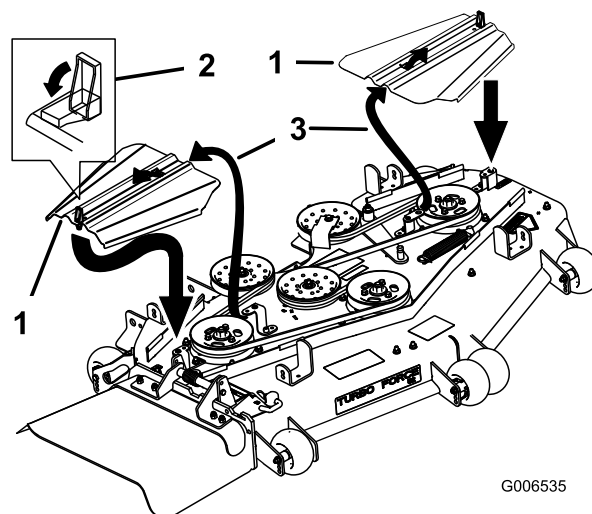

Figure 67
10. Install the belt covers by sliding the cover into the tab and close the latches (Figure 67).